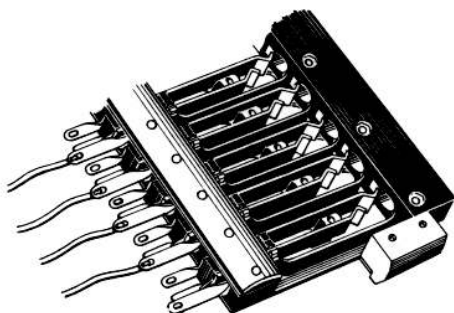

FIG. 6. JACK OR LAMP STRIP TERMINATION.
2.9 Jack Strips and Lamp Strips. First strip the wires as for terminal blocks. The bare wire is then cut to length, fed through the hole in the tag and bent back as in Fig. 6.